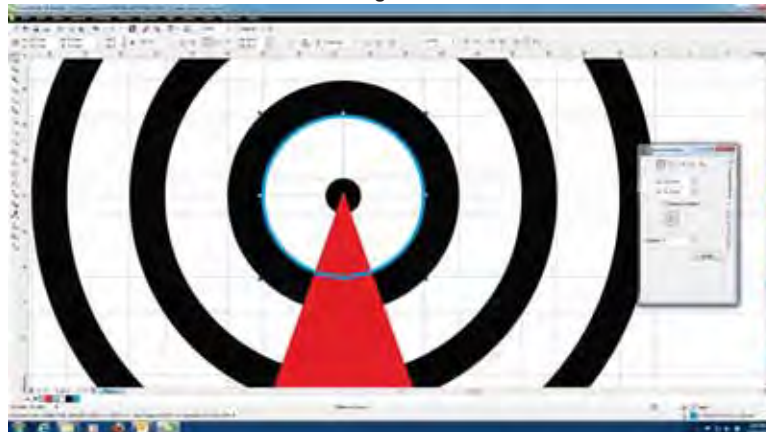

Fig.13
- 7. Now draw the tower. Fill it with another colour for the moment so we can easily see it. As in Fig 13, we are drawing this as a triangle to begin with.